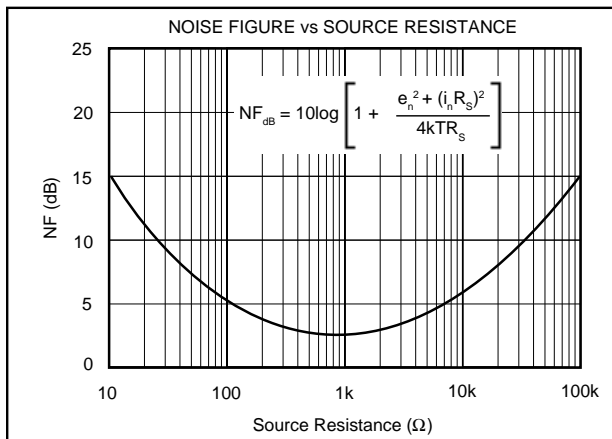

FIGURE 10. Noise Figure vs Source Resistance.
The OPA620’s voltage and current noise spectral densities are specified in the Typical Performance Curves. For RF applications, however, Noise Figure (NF) is often the preferred noise specification since it allows system noise performance to be more easily calculated. The OPA620’s Noise Figure vs Source Resistance is shown in Figure 10.